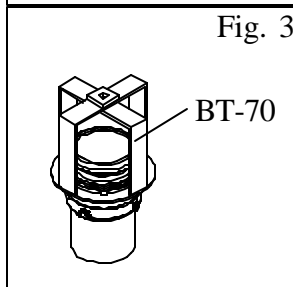

Fig. 3
STEP 3: Place the Bravo BT-70 tool over the B-70, and using a torque wrench, tighten to 45 ft-lbs. (see Fig. 3).